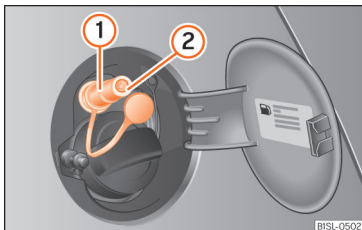

Fig. 180 Open tank lid: gas filler mouth ①, filler mouth retainer ②
- Remove the plug from the gas filler mouth »» Fig. 180 ①.